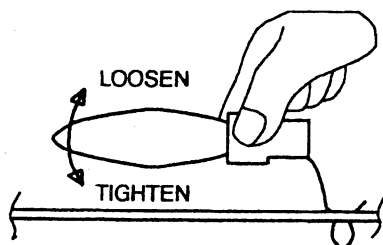

FIGURE 12
3. **Hold the socket while unscrewing the bulb.(FIGURE 12)**
2. Hold the socket while unscrewing the bulb. (FIGURE 12)